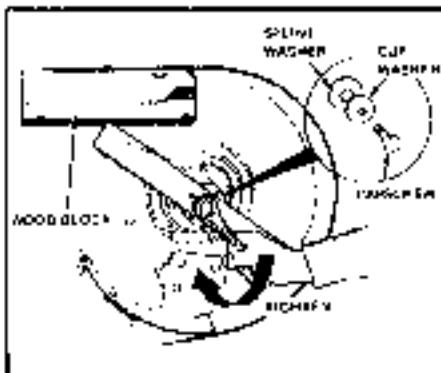

Figure 18. Installing Blade
7. Reinstall each blade with the tabs pointing up toward deck and secure with a capscrew, cup washer, and spline washer. Be sure the splines on the spline washer are aligned with the shaft and the washer is flush against blade. Be sure cup washer is installed concave side up. Use a wooden block to prevent blade from spinning and torque capscrew to 50 ft. lbs. (68 N.m) (figure 18).